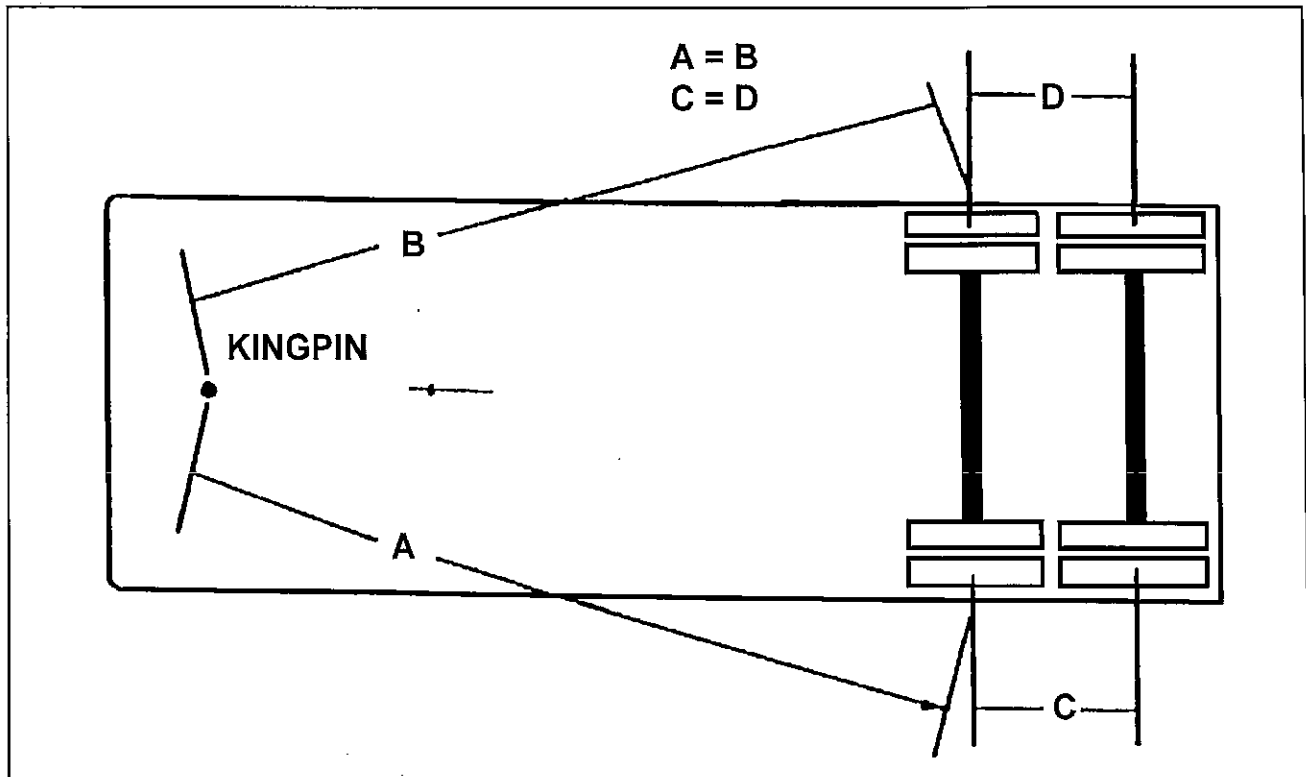

Figure 4-2 Axle Alignment Distances
- e. See Figure 4-2 . Measure distances “A” and “B” from the kingpin to the axles. These must be equal within 1/16” of each other.